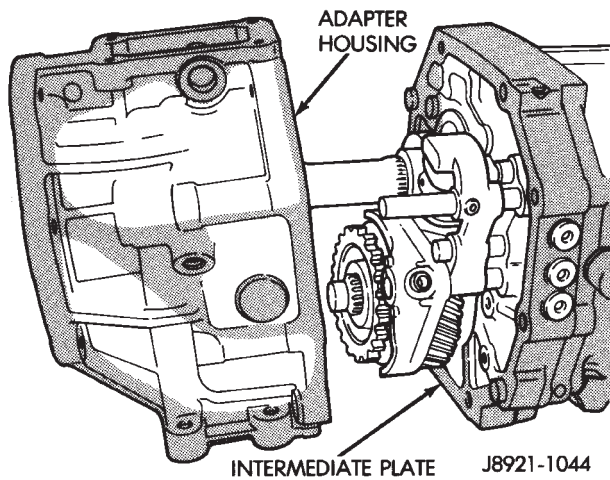

Fig. 29 Remove Adapter/Extension Housing
- (17) Remove adapter/extension housing (Fig. 29).